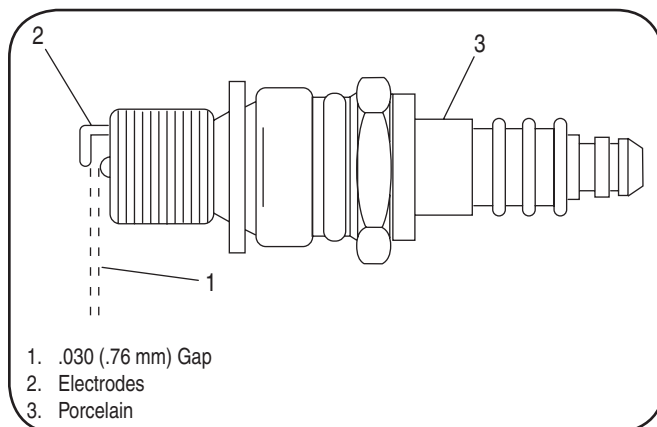

Figure 6-4
3. Measure the plug gap with a feeler gauge. Correct as necessary by bending side electrode. See Figure 6-4. The gap should be set to .02-.03 inches (0.60-0.80 mm).